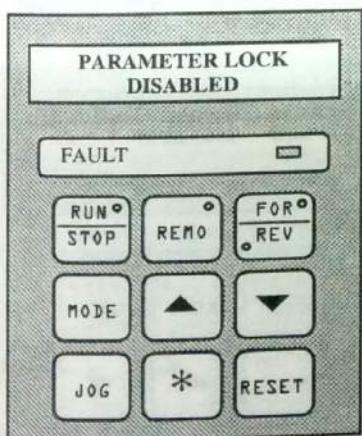

FIG. 3.12
- ☞ Release \* key. (fig. 3.12)